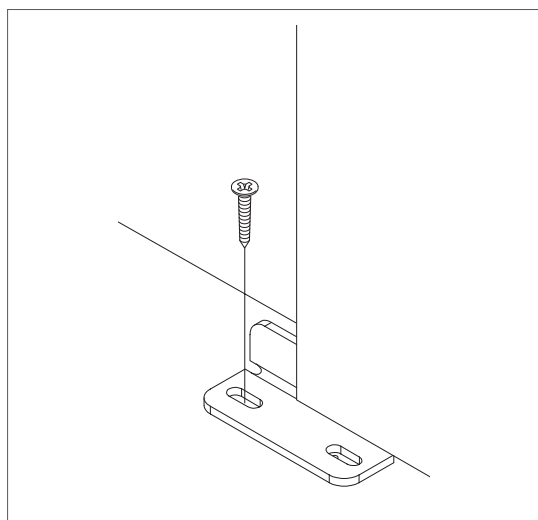

Figure 7
13. Position the door guide part way into the groove in the bottom of the door (Figure 7).